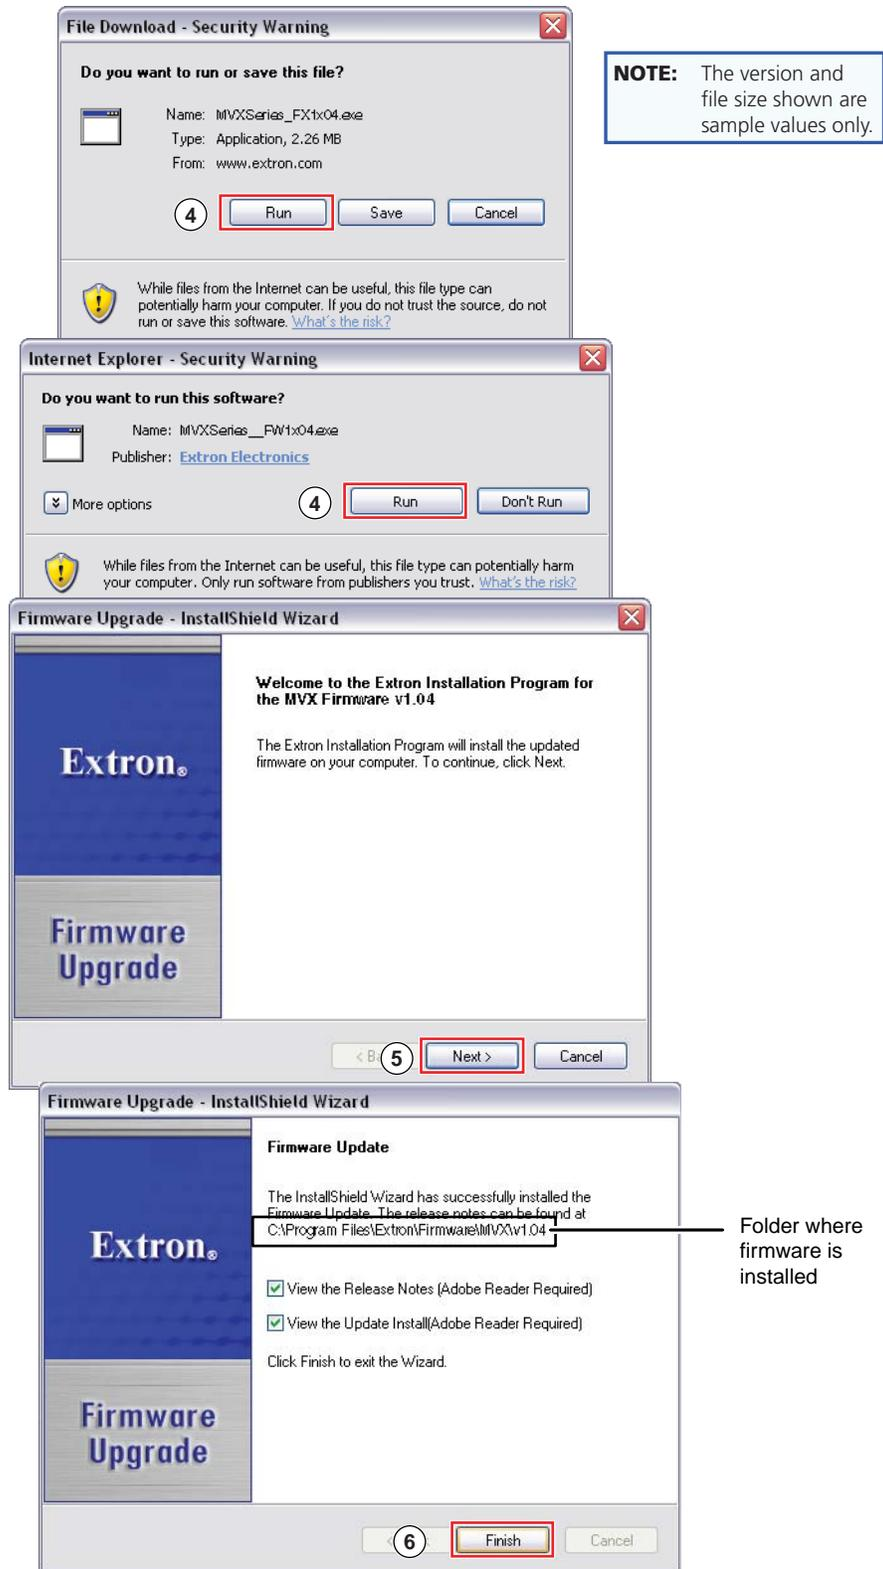

Figure 31. Downloading Firmware Upgrade Files
4. Click **Run** on the next two screens (see figure 31 on the next page). The PC downloads the firmware update from the Extron website and starts the Extron Installation Program to extract the firmware file.